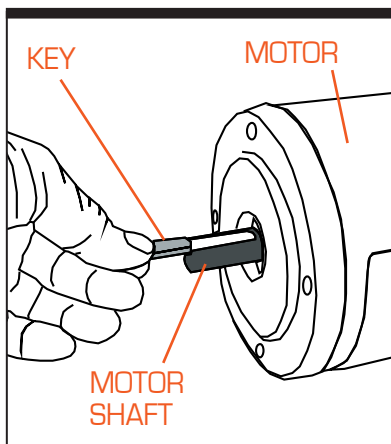

Figure 5-3. Motor Key/Shaft
Step 8—Install Motor. Assemble the key to the motor shaft (see Figure 5-3) and coat the shaft with anti-seize compound. Insert the motor shaft into the speed reducer input shaft. Align the shafts accurately; improper alignment can result in failure. Rotate the motor to the correct position and firmly secure to flange with four hex-head cap screws. Do not allow the motor to "hang" unsupported before fully seated in the reducer to avoid damaging the reducer input seal. If the motor does not readily seat itself, check to see if the key has moved.